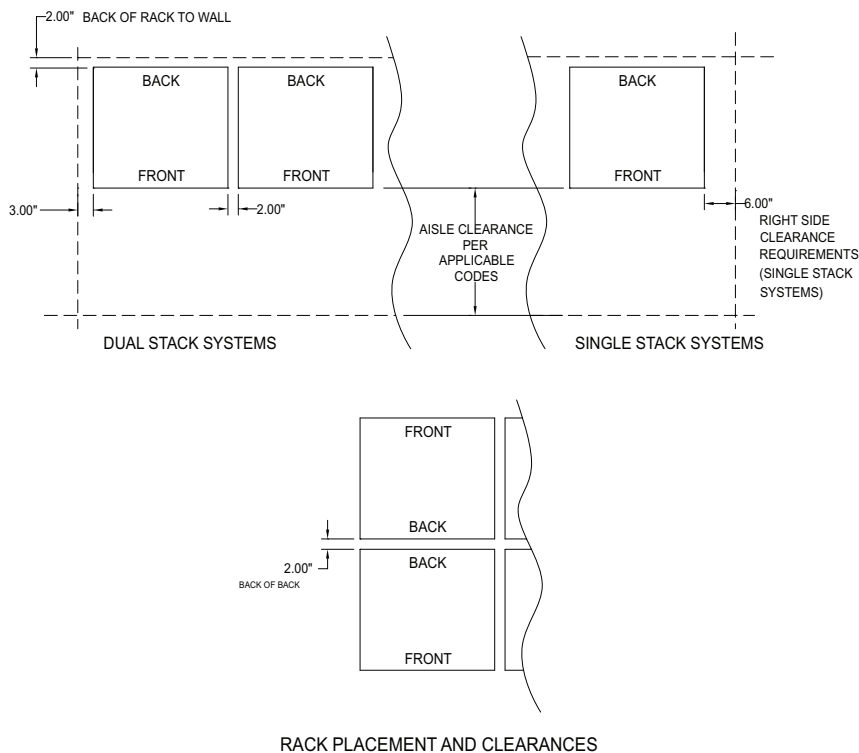

FIGURE 3
- **Figure 3**, Rack Placement and Clearances
Locate rack's general position, considering boundary and aisle clearances. 2 inches are required between racks of two rack systems (i.e. 360V, 384V and 480V) placed side by side. 2 inches are required from the back of the rack to a wall. A clearance of 3 inches is required at the sides of the rack. 6 inches is required at the right side of single stack systems. See **Figure 3**.